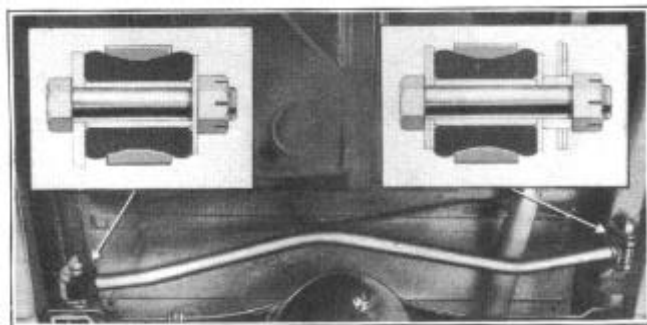

FIGURE 7
12. Remove nuts and washers holding the rear axle stabilizer bar to the rear axle and body frame side rail. See Figure 7.